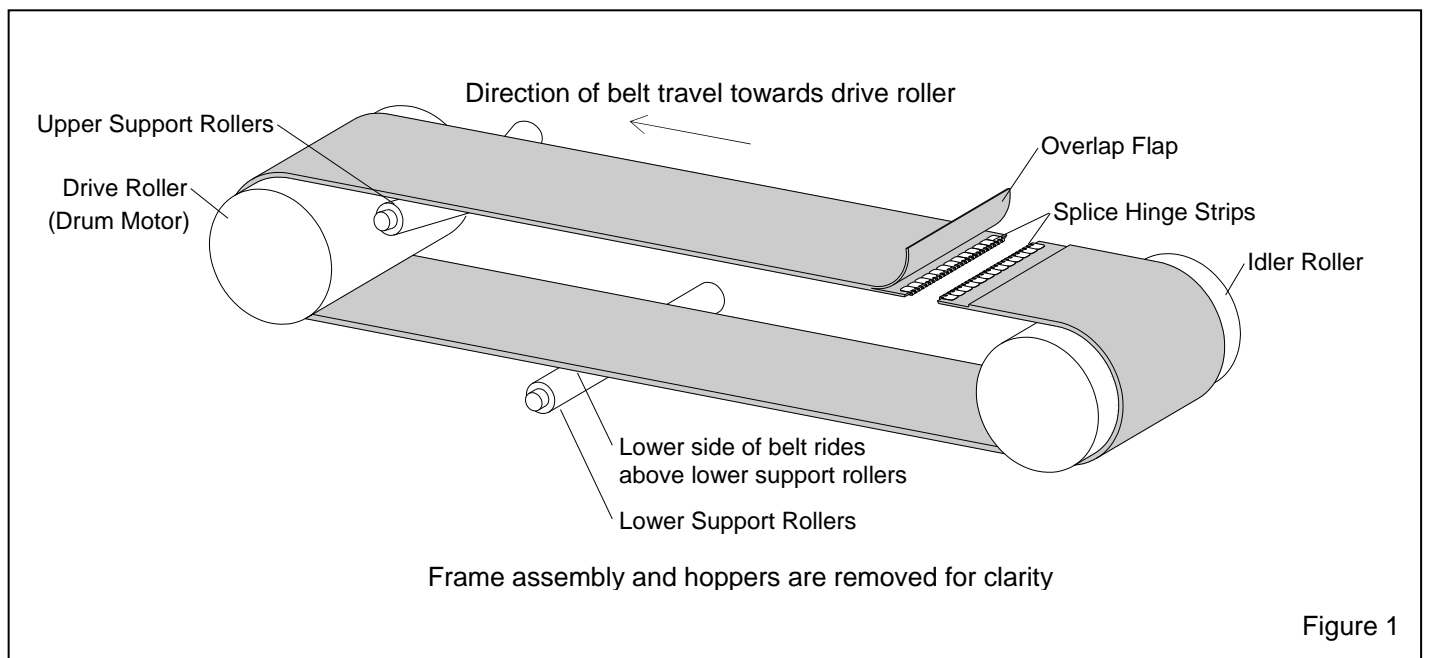

Figure 1
**4.3 Install Belt, Refer to Figure 1**
**NOTE: Make sure the belt is installed to travel in the direction as shown in Figure 1, with the overlap on the trailing end of the belt. Once the splice made and the overlap is cemented, it cannot be redone.**
**4.3.1** Make sure the orientation of the belt splice and overlap flap is as shown in Figure 1. When the splice is on the upper side, the flap is on the outer surface on the drive side end of the belt.
**4.3.4** Bring the belt over the idler pulley. **The belt should appear as it does in Figure 1; if it is not as shown, re-route the belt.**
**Make sure the belt is installed as follows. Once the overlap is bonded, it cannot be redone. The belt must be installed as shown in Figure 1 and as follows.**